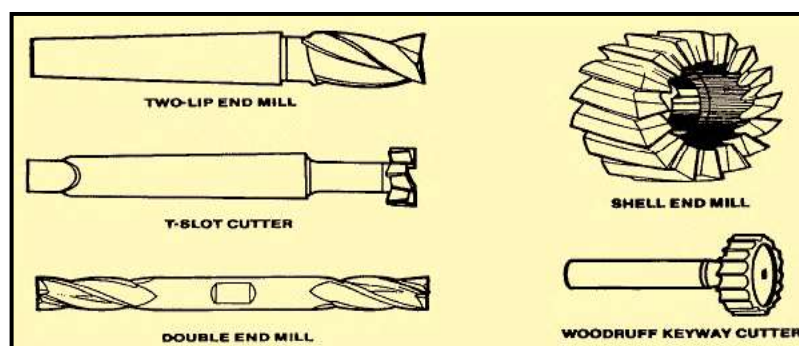

Figure 8-7. End milling cutters, T-slot, and Woodruff cutters.
**End Milling Cutters:** The end milling cutter, have straight or tapered shank, also called an end mill, has teeth on the end as well as the periphery, and may have straight or spiral flutes, classified as left-hand or right-hand cutters depending on the direction of rotation of the flutes. (Figure 8-7).
**Woodruff Keyslot Milling Cutters:** Is made in straight, tapered-shank, and arbor-mounted types. The most common cutters of this type, under 1 1/2 inches, are provided with a shank. They have teeth on the periphery and slightly concave sides to provide clearance. These cutters are used for milling semi cylindrical keyways in shafts. (Figure 8-7).